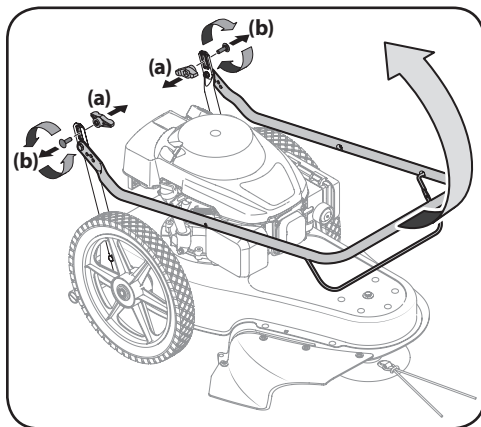

Figure 2-1
1. Remove the wing knob (a) and carriage bolt (b) from the left lower handle and the right lower handle. See Figure 2-1.
2. Pivot the upper handle into the operating position. See Figure 2-1.